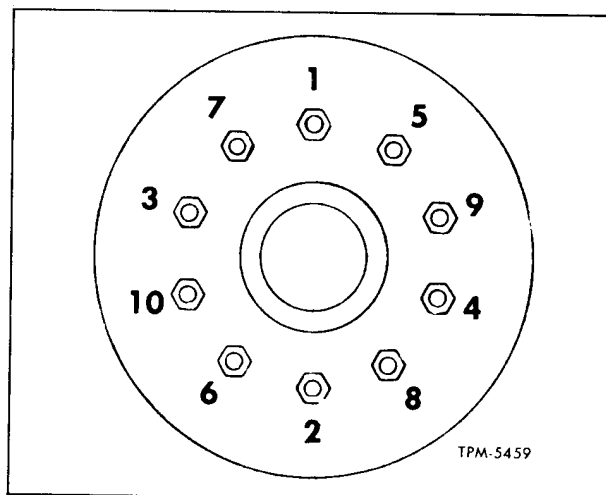

Figure 4—Wheel Nut Tightening Sequence
It is important that wheel stud nuts be tightened alternately on opposite sides of wheel. A suggested sequence for tightening is shown in figure 4, and a recommended procedure is as follows:
2. Tighten nuts progressively in the sequence shown in figure 4 with torque wrench until torque limit is reached. Do not tighten each nut completely at one time, but progress from one nut to another so that wheel is tightened uniformly.